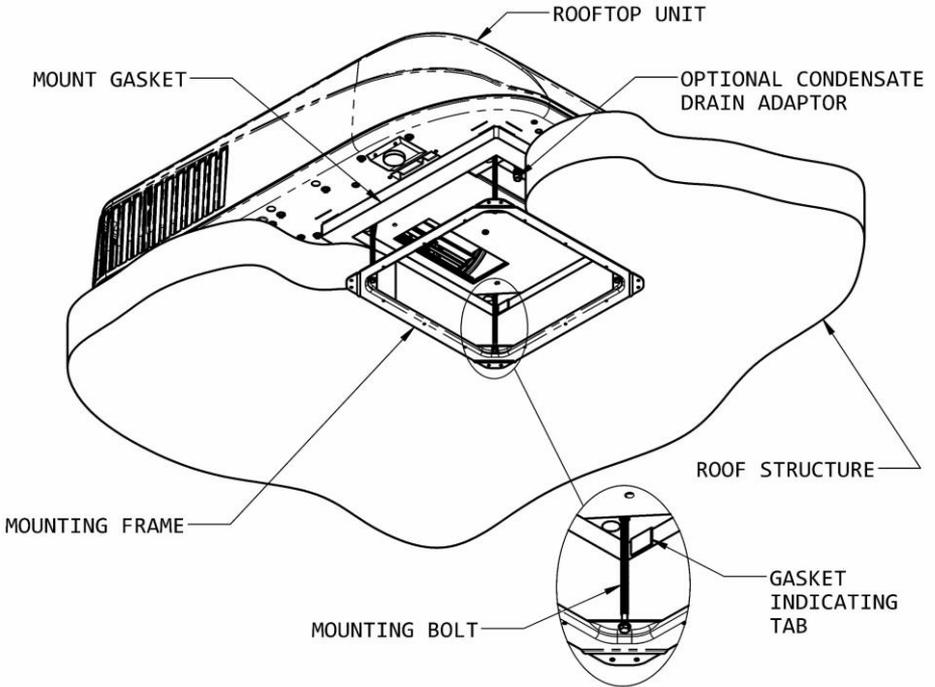

Figure 4
- A mounting frame is supplied with the ceiling assembly. Follow the steps below to secure the heat pump to the roof. Refer to Figure 4.
3. Proper tension has been achieved for each bolt when any portion of each gasket indicating tab has been pulled down even with the roof (See Figure 4). The upper unit has now been properly installed with optimum gasket compression.
drain under the vehicle. The hose must not be allowed to kink shut while making a bend. Connect the top end of the drain hose to the barbed fitting shown in Figure 4.